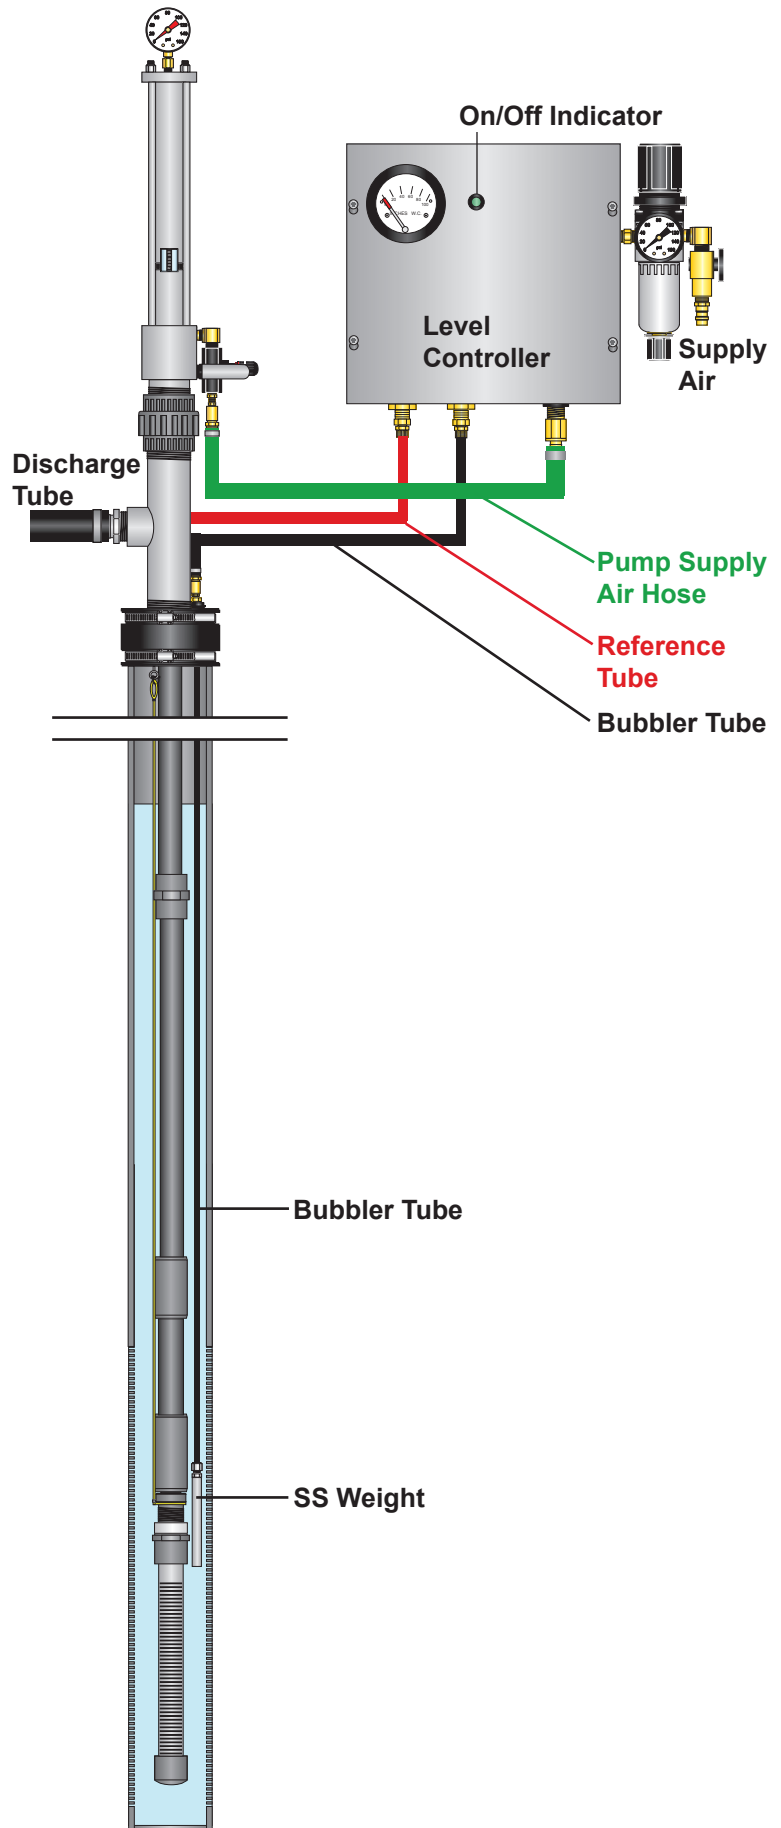

Figure 19
22. Mount the level controller to the well casing or at another nearby location if desired (Figure 19).
23. Insert the end of the 1/4" O.D. bubbler tubing fully into the bubbler tubing compression fitting on the level controller and tighten the compression fitting, using two 6" wrenches (Figure 19).
24. Insert one end of the 5/16" OD reference tubing into the reference tubing compression fitting on the well-head assembly and tighten the compression fitting, using two 6" wrenches (Figure 19).
25. Insert the other end of the 5/16" OD reference tubing into the reference tubing compression fitting on the level controller and tighten the compression fitting, using two 6" wrenches (Figure 19).
26. Attach supply air to the supply air inlet on the level controller (Figure 19).
27. Attach one end of the pump supply air hose to the level controller barb and clamp the hose over the barb. Clamp the other end of the pump supply air hose over the barb on the female quick connect fitting. Attach the female quick connect fitting on the pump supply air hose to the male quick connect fitting on the driver (Figure 19).
5. Turn the pump off by closing the Level Controller's "Supply Air" ball valve (see **Figure 19, Page 13**).
The pump will continue to cycle as long as the liquid level in the well is approximately 5" – 10" above the lower end of the downwell bubbler tube assembly (as indicated on the level controller's level gauge). When the liquid level is drawn down below 5", the pump will stop cycling until the level rises back up to 10". When the Level Controller's "On/Off Indicator" (see **Figure 19, Page 13**) is green, the liquid level is > 5", and the pump should be cycling. When the "On/Off Indicator" is black, the level is < 5", and the pump should not be cycling